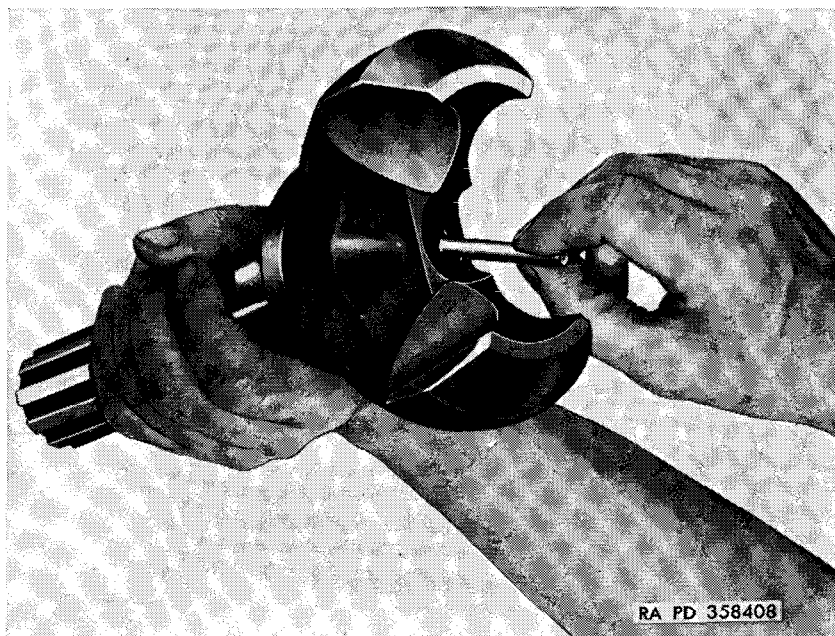

Figure 85. Installing Bendix universal joint center ball pin.
a. Bendix (fig. 60). Place the outer axle shaft (A) with the outer end in a vise equipped with soft metal or wooden protected jaws. Insert the universal joint center ball pin (F) in the hole of the axle shaft knuckle (fig. 85). Place the universal joint center ball (E) in its race on the center ball pin hole. Arrange the universal joint center ball so the grooved side of the universal joint center ball is away from the universal joint center ball pin hole. Insert the remaining universal joint outer balls (C) in their races. Arrange the